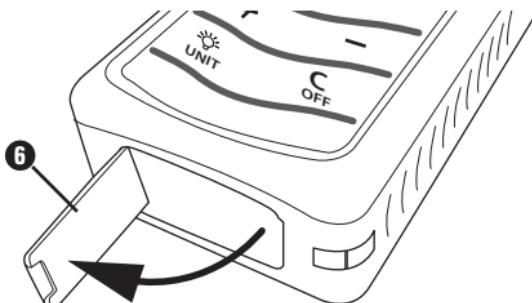

Fig. 2
- ◆ Fold out the angle stop ⑥ as shown in Figure 2.